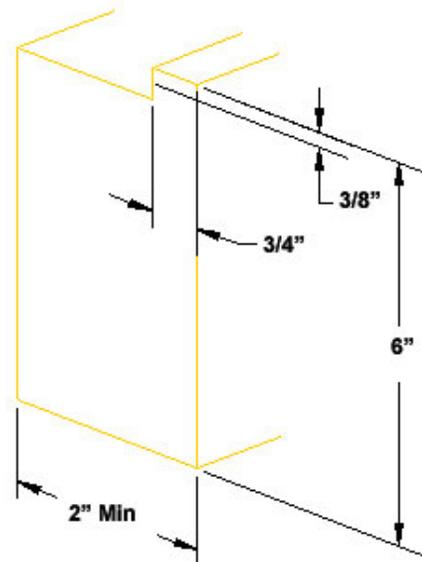

Fig. 23
- e. Notch the top of the Closure Block to accept the Dryvit Track, as shown in Figure 23.